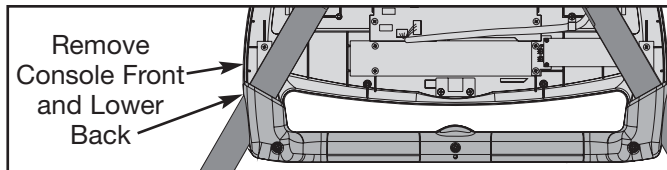

Figure 26
- C. Using a Phillips head screwdriver, remove the three screws securing the lower back of the console in place and gently pull the back off. See Figure 26. **NOTE:**